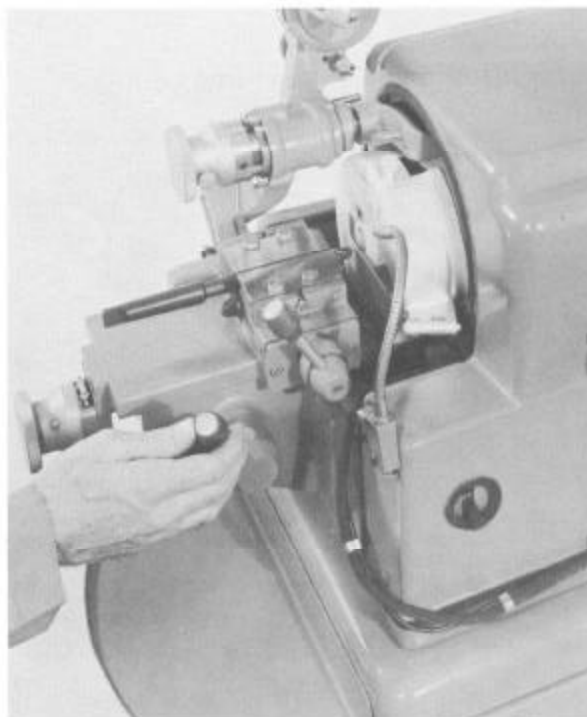

Figure 5a
7. Advance the slide with the rapid feed lever until the end of the travel is reached. (See Figure 5a.)